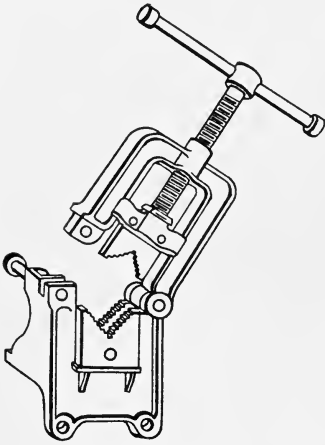
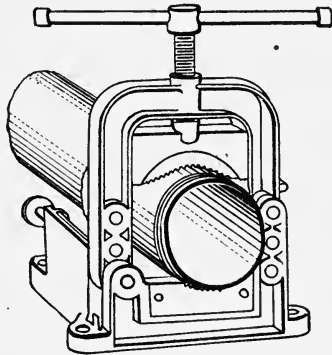

Fig. 16
Fig. 17
**Pipe Vises.**—For holding pipe at a bench, while cutting and threading, hinged vises, Fig. 16, will be found by far the most convenient and the quickest to operate. The jaws are renewable and can be replaced at any time they become damaged or they can be removed for sharpening and repairs. This type of vise is made in two sizes. The smaller takes pipes up to 3 inches in diameter, while the larger one, Fig. 17, will hold pipes from 2½ to 8 inches in diameter.